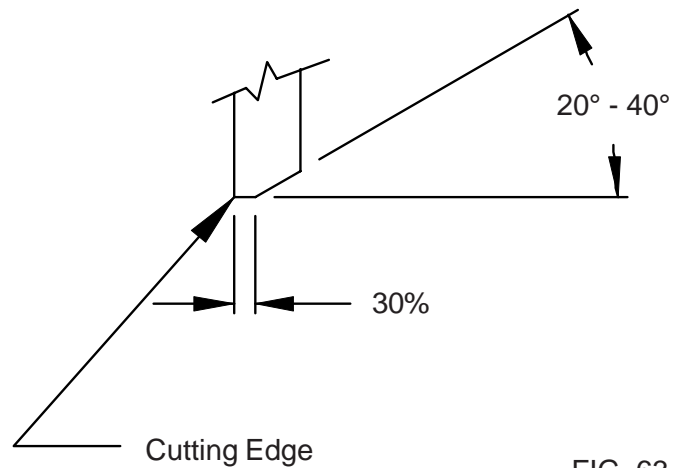

FIG. 63
- F. It is recommended that when the relief grinding is completed that 70% of the reel blade be removed. See FIG. 63. This will generally take up to three passes across each blade. At this time infeed the grinding wheel to take 1/3 to 1/2 relief grind. This amount will vary depending on the condition of the reel.
- I. Now continue grinding each blade by indexing them as practiced in procedure "E" until you have ground each blade down and back. When each blade has been ground inspect to see if proper relief has been attained. If not, reset wheel as in procedure "D" and regrind as before. Continue until you achieve the 70% relief. See FIG. 63.